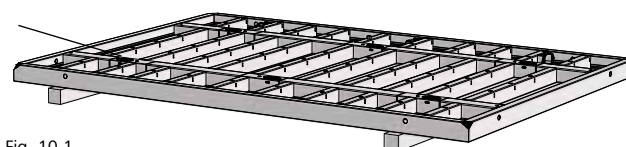

Fig. 10.1
1. Place the Mammut XT panel on square timbers with the frame side facing upwards (Fig. 10.1).
2. Completely attach the MIS platform to the 4-rope crane sling and move it above the formwork panel using a crane (Figures 10.1 and 10.2).